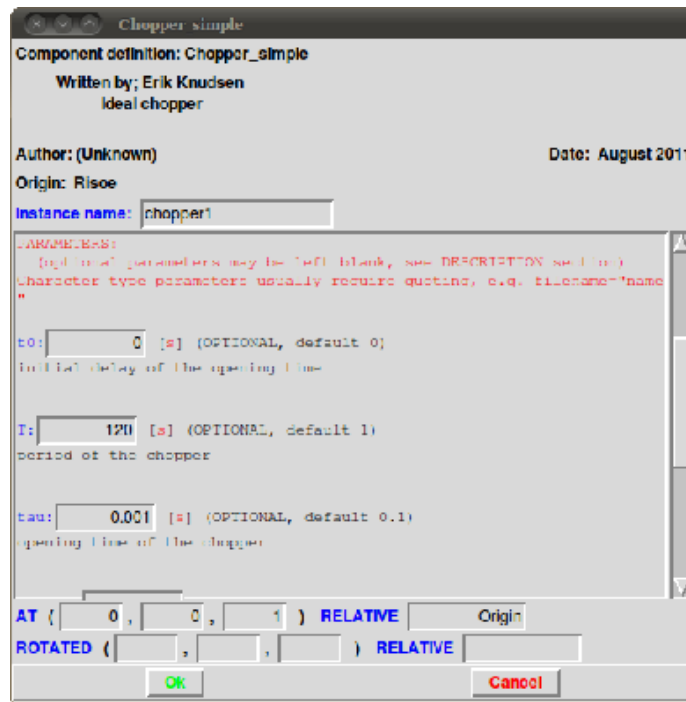

Figure 2: Device/Component insertion dialog window.
- Insert a source. Position your cursor in the TRACE section below the `Progress_bar` component and **Insert/Sources/Source_gaussian**. This opens a window similar to figure 2 below: